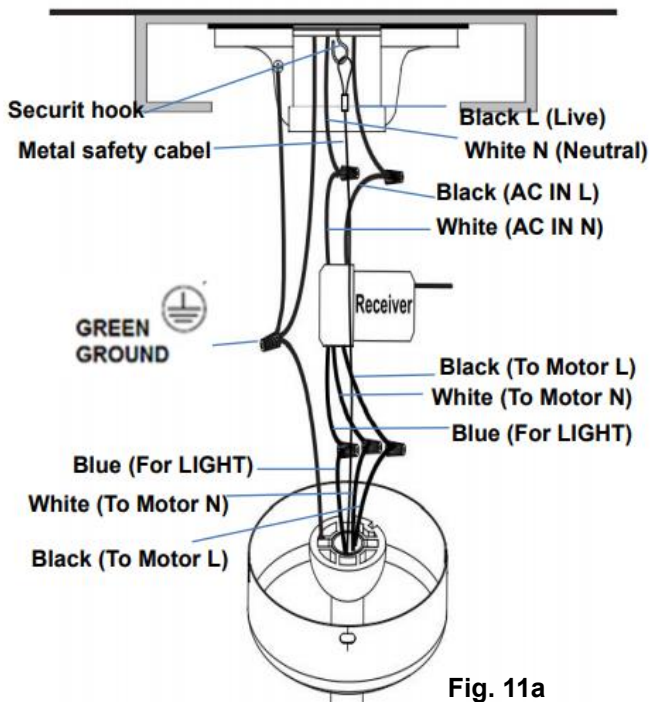

Fig. 11a
7. Pull the metal safety cable on the security hook, tight the safety cable (Fig.11a & Fig.11b).